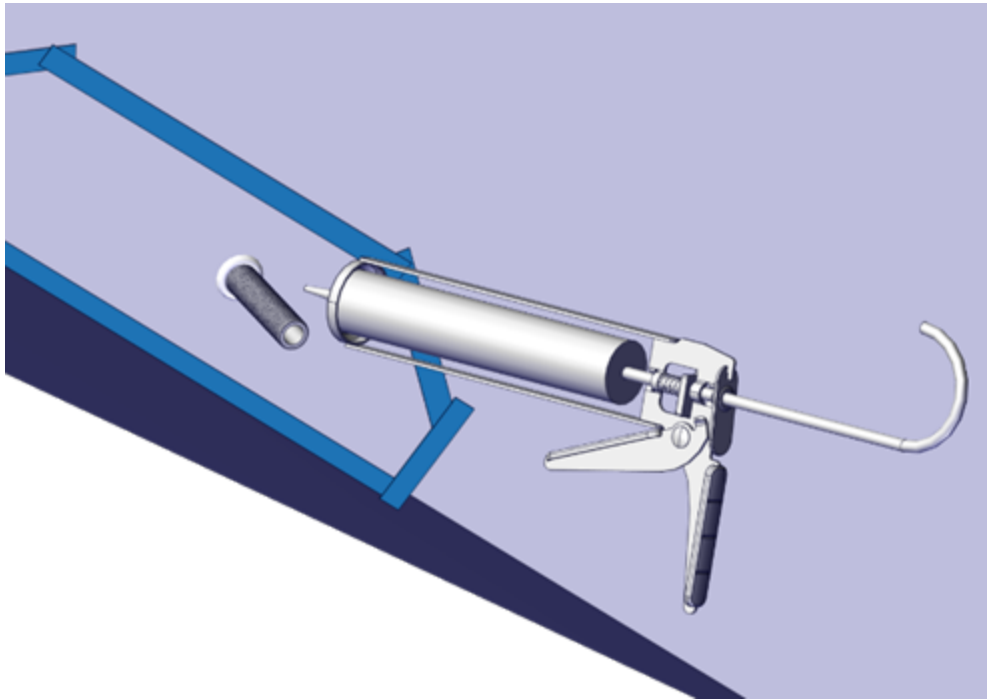

Figure 56 – Sealant Application to Cable Gland
4. Apply a liberal amount of sealant on the outer diameter of the gland. Install the Cable Gland tube from the inside (Figure 56 – Sealant Application to Cable Gland).